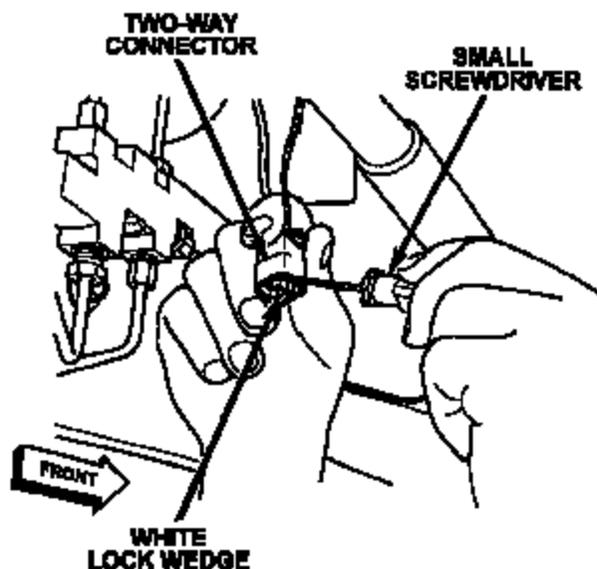

Figure 2
3. Using a small screwdriver, slide the white lock wedge to the unlock position in the two-way connector (Figure 2).
- Slide the white lock wedge back to its locked position into the two-way connector (Figure 2).